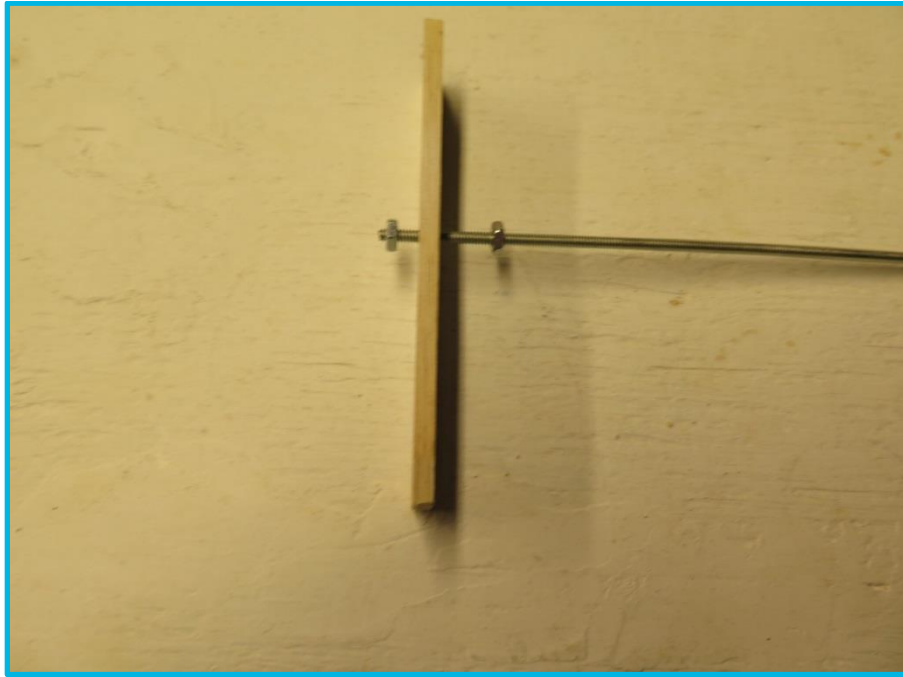

Figure 2
10. Assemble all these items as shown in Figures 2 to 8.